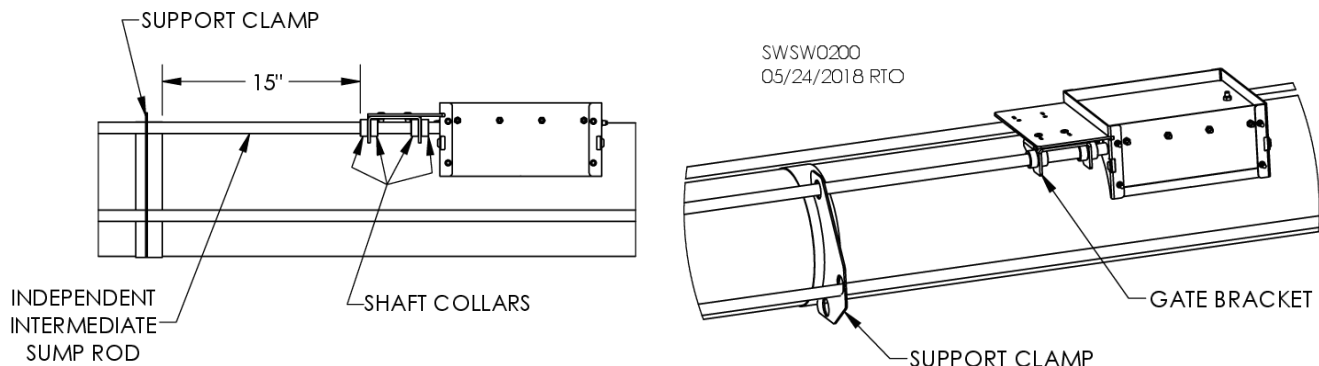

Fig. 12
1. Remove four (4) shaft collars from pull rod.
4. Slide pull rod through support clamps and into gate bracket as shown in Fig. 12, simultaneously attaching shaft collars to rod as shown.